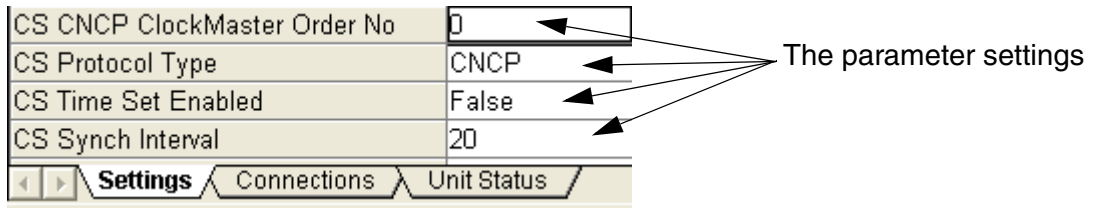

Figure 84. The parameter settings under the Settings tab in the hardware editor.
3. Set the following (four) parameters according to Figure 84. The setting *CS Time Set Enabled* can be set to `True` if local time source is used.